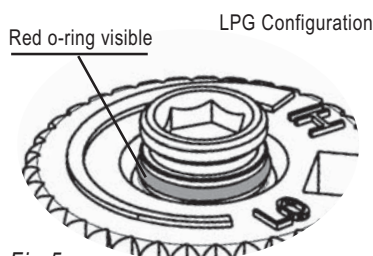

Fig. 5
- 16) Verify that if the conversion is from NG to LPG, the screw must be re-assembled with the red o-ring visible (Fig. 5).